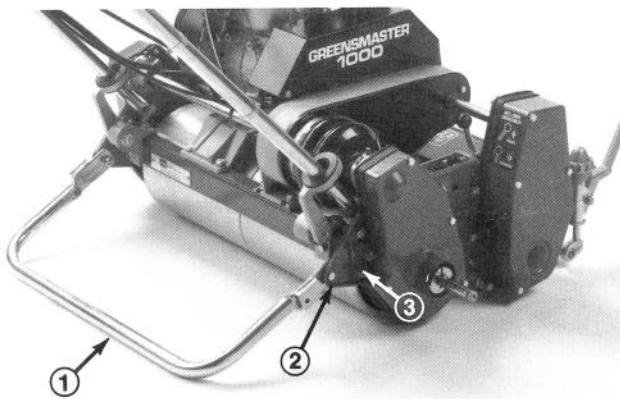

Figure 1
1. Secure each side of kickstand to inside of rear mounting brackets with a capscrew, spacer, washer and locknut (Fig. 1).
2. Remove the (2) capscrews and lockwashers securing the right sideplate to the rear frame cross member (Fig. 1).
3. Mount spring bracket to the right sideplate with (2) capscrews and lockwashers supplied in kit (Fig. 1).